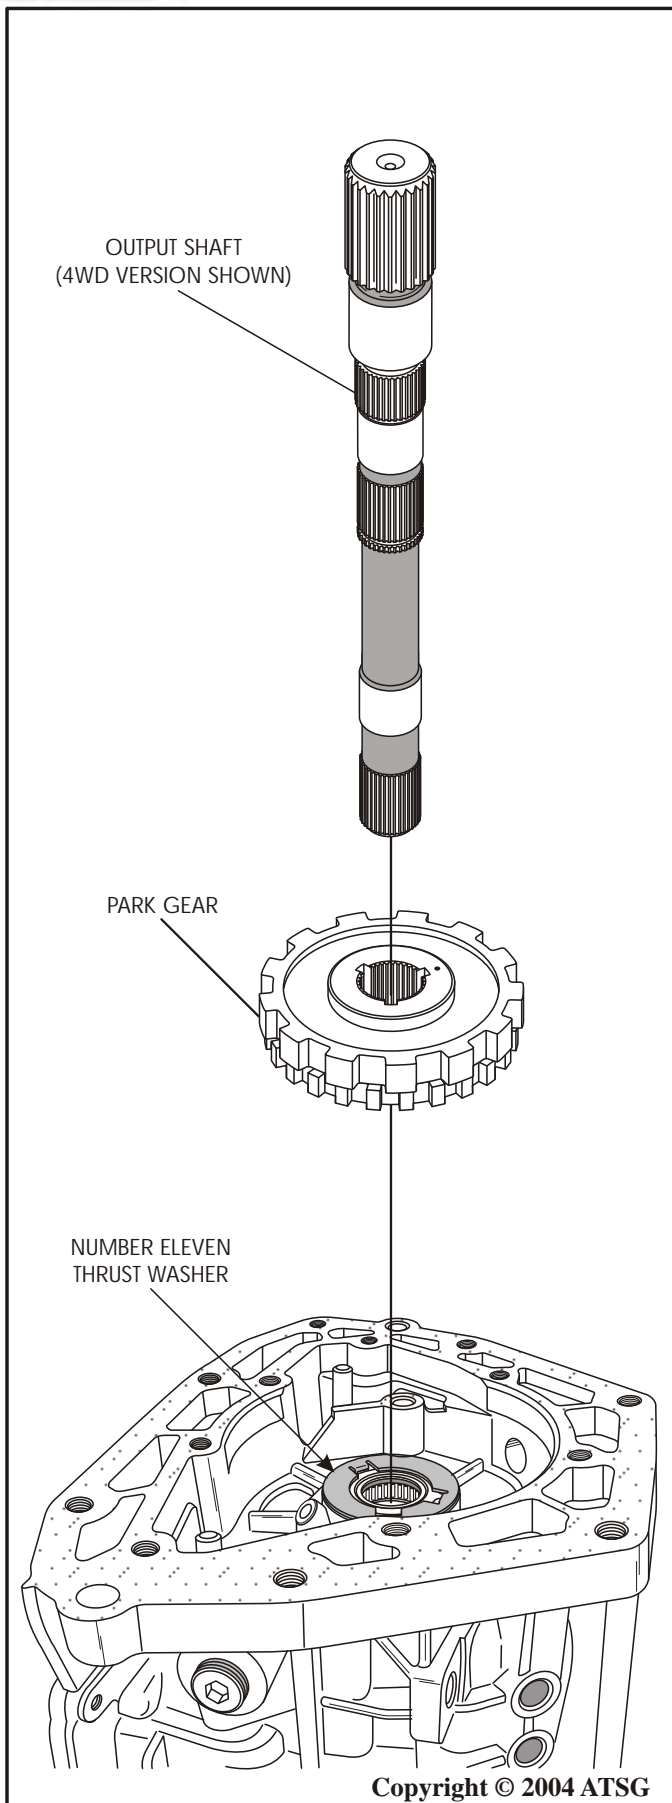

Figure 135
1. Rotate transmission in fixture so that rear of the case is facing up, as shown in Figure 135.
2. Ensure that the number 11 thrust washer is still in place, as shown in Figure 135.
3. Install the park gear and output shaft, as shown in Figure 135.